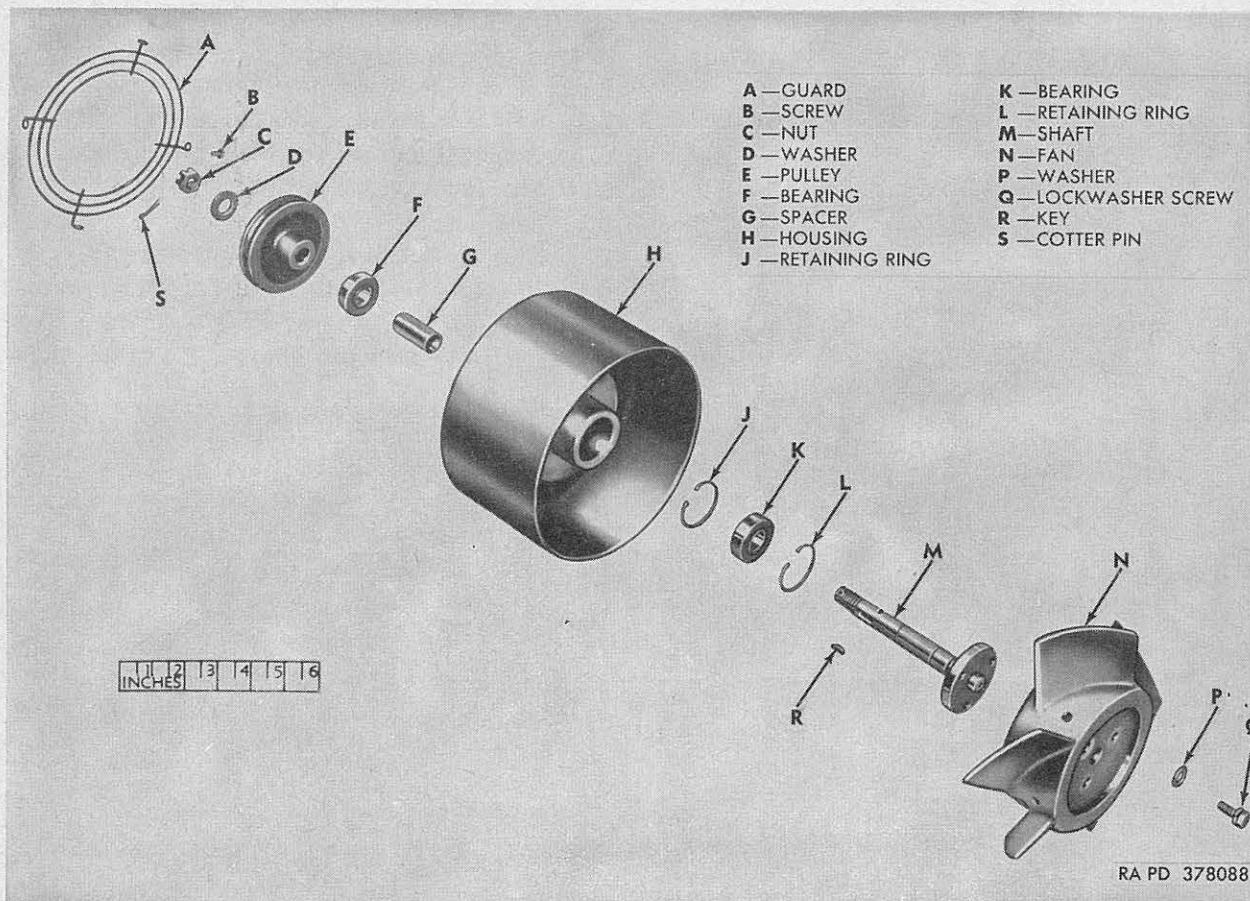

Figure 17. Blower—exploded view.
*c. Blower Pulley Replacement* (fig. 17). Remove blower (b above). Remove cotter pin (S), hex nut (C), and washer (D) securing groove pulley (E) to impeller shaft (M). Pull pulley
*d. Blower Bearing Replacement (fig. 17).*
- (1) *Removal.* Remove blower pulley (e above). Remove four screws (B) and inlet guard (A). Carefully press impeller shaft (M) with attached parts out of bearings in impeller housing.